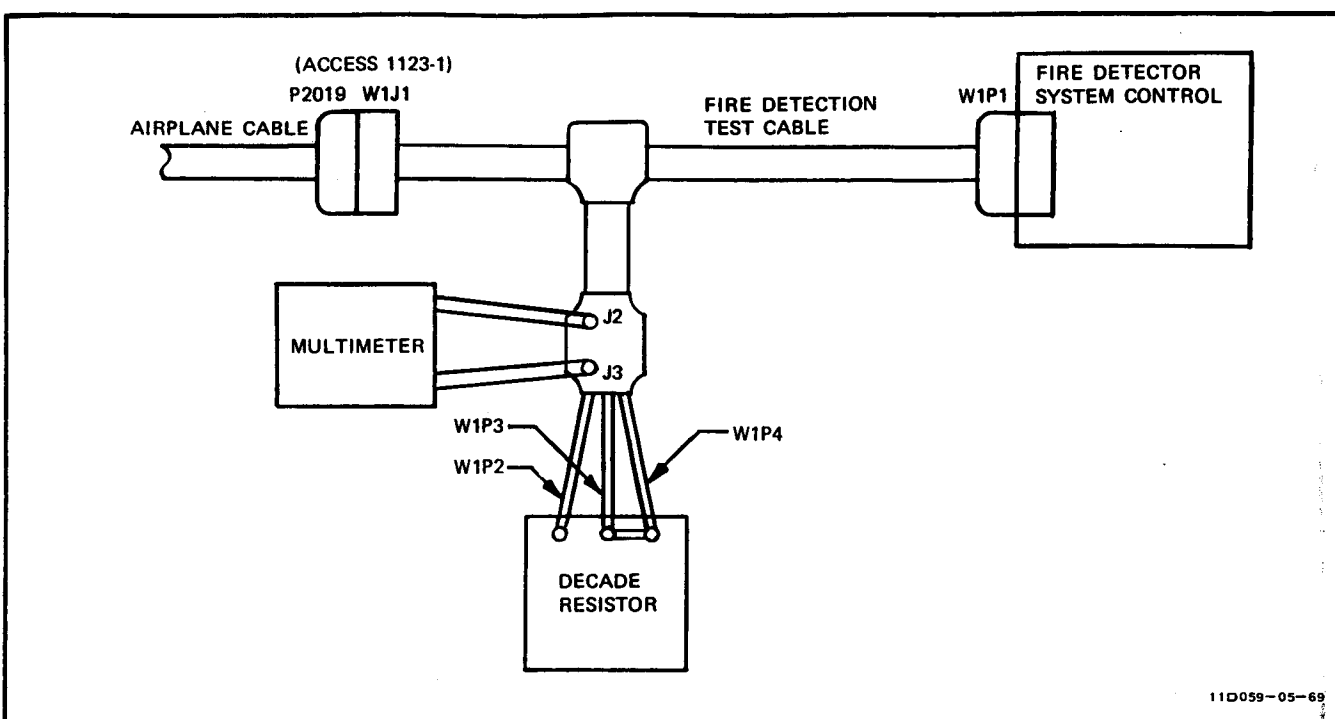

Figure 10-5. Fire Detection System Control Test Cable Connections
- c. Connect test cable, decade resistor, and multimeter as shown in figure 10-5.